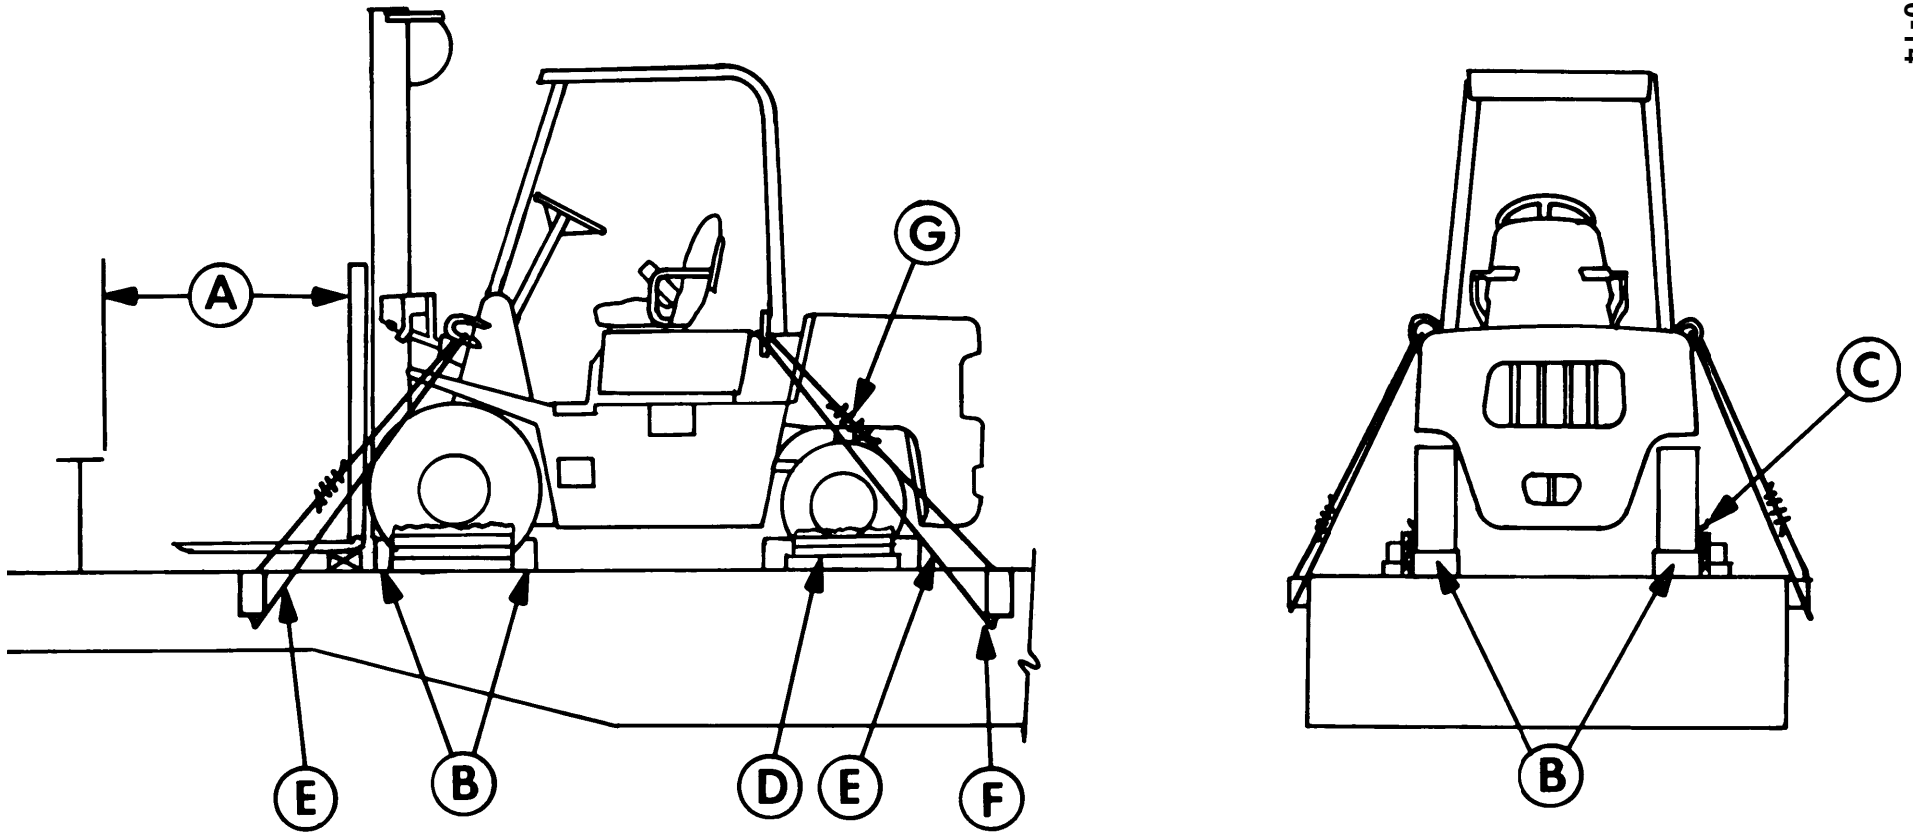
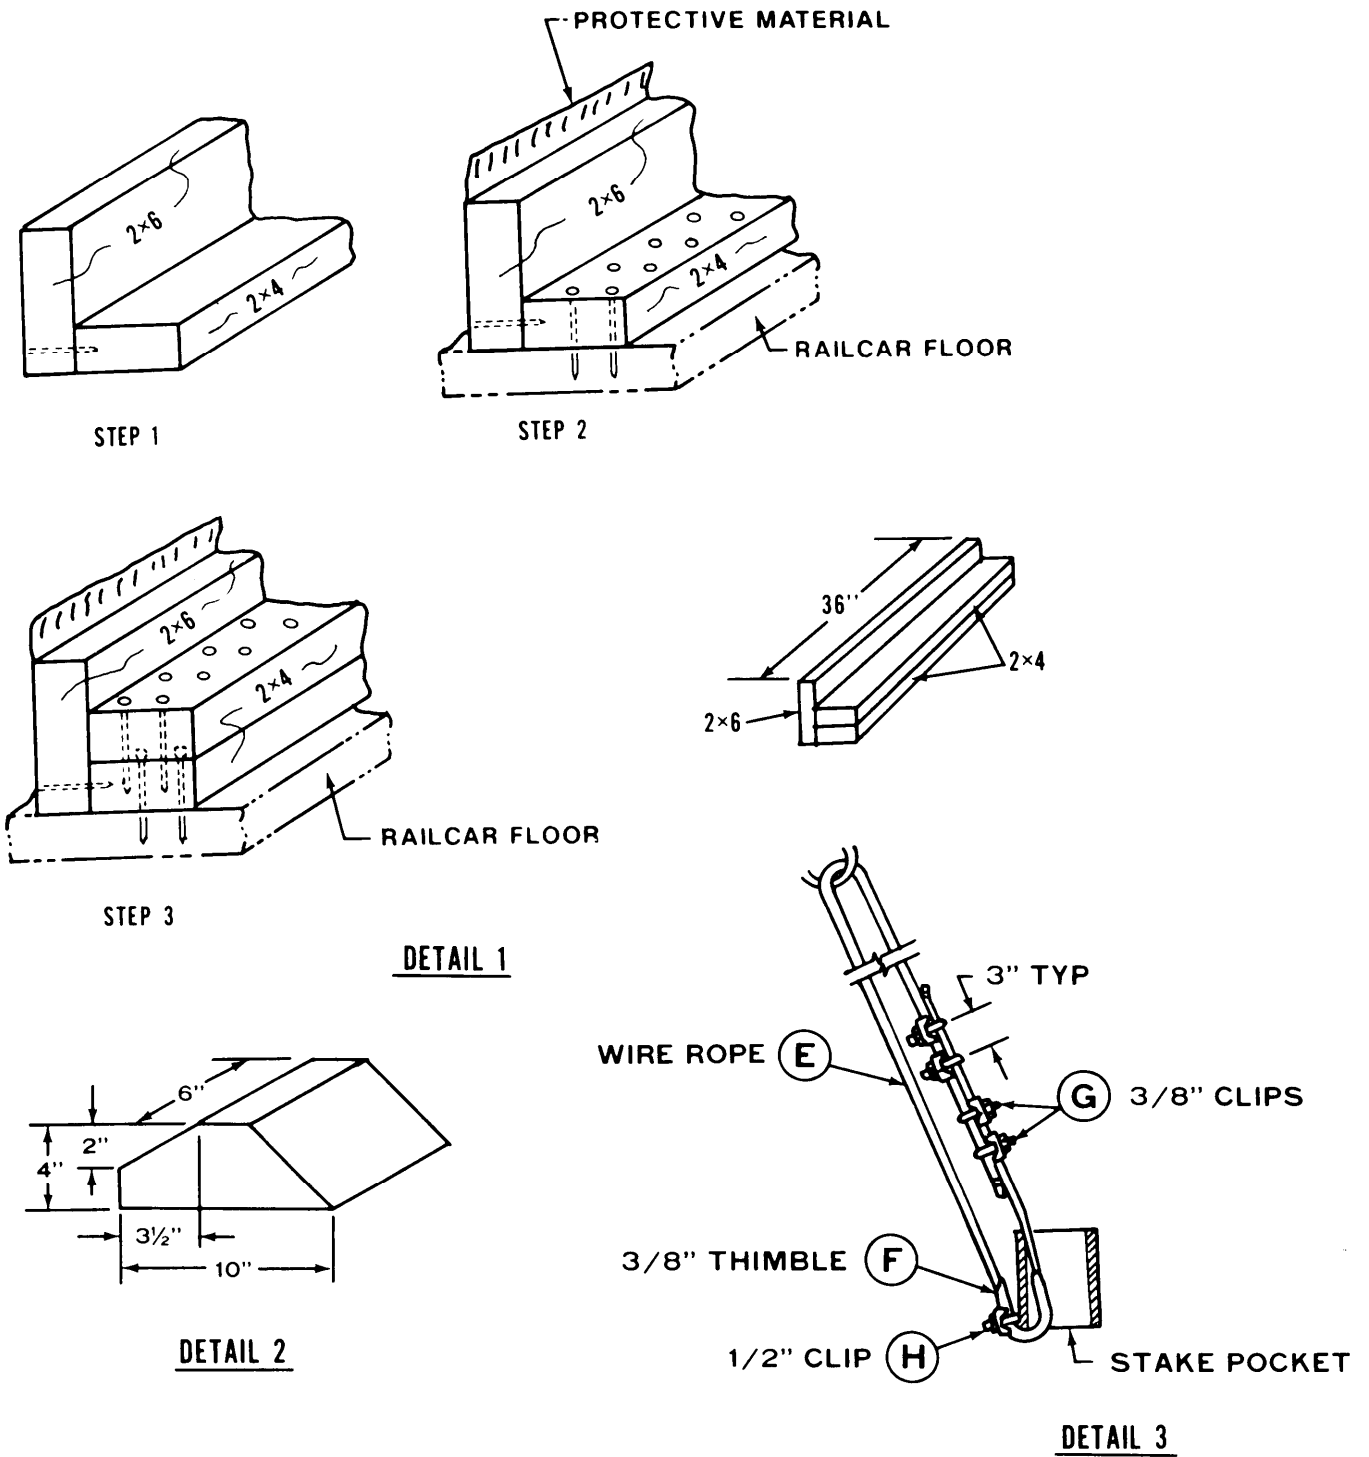

Figure 7-1. Blocking and tiedown of typical forklift on CONUS general-purpose flatcar.
Figure 7-2. Blocking and tiedown detail diagram.
b. Figure 7-1 shows the load on a general-purpose flatcar. Figure 7-2 provides detailed instructions for blocking and tiedown. Table 7-1 provides a bill of materials, and table 7-2 presents application of those materials for securing forklifts on general-purpose flatcars.
*Table 7-1. Bill of Materials for Blocking and Tiedown of a Typical Forklift on CONUS General-Purpose Flatcar (Figs 7-1 and 7-2)*
Table 7-2. Application of Materials for Blocking and Tiedown of a Typical Forklift on CONUS General-Purpose Flatcar (Figs 7-1 and 7-2)